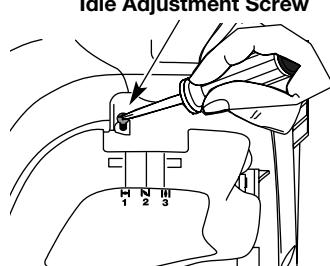

Fig. 32
The idle speed of the engine is adjustable. An idle adjustment screw is between the air filter cover and the engine starter housing (Fig. 32).
2. Move the throttle control to the idle position () and let the engine idle. If the engine stops, insert a small phillips screwdriver in between the Air Filter Cover and the Engine Cover (Fig. 32). Turn the idle speed screw in, clockwise, 1/8 of a turn at a time (as needed) until the engine idles smoothly.